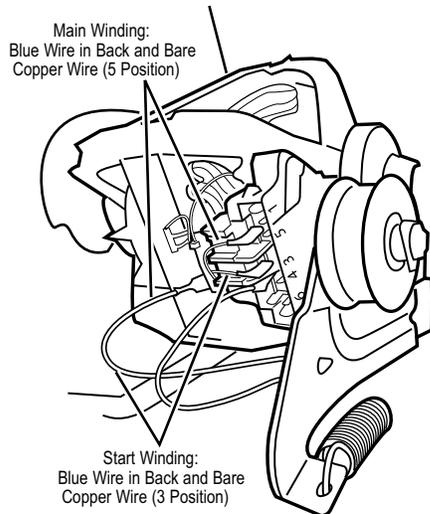

Figure 7. Main and start winding measure points.
- Using Figure 7, check for the resistance values of the motor's Main and Start winding coils as shown in the following table.